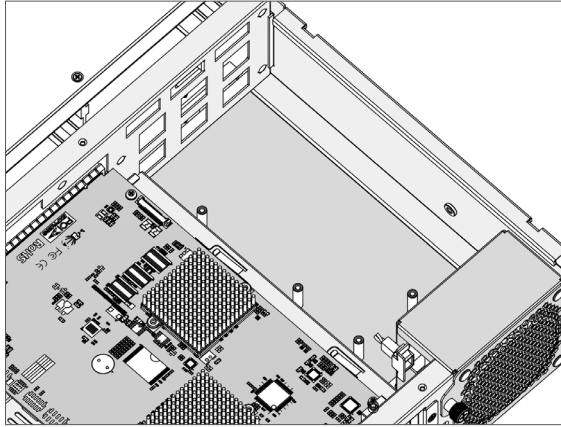

Figure B-6, Removing the Cover
1. Loosen the screws and remove the cover from the ARC-7208/ARC-7212 enclosure, as shown in Figure B-6.